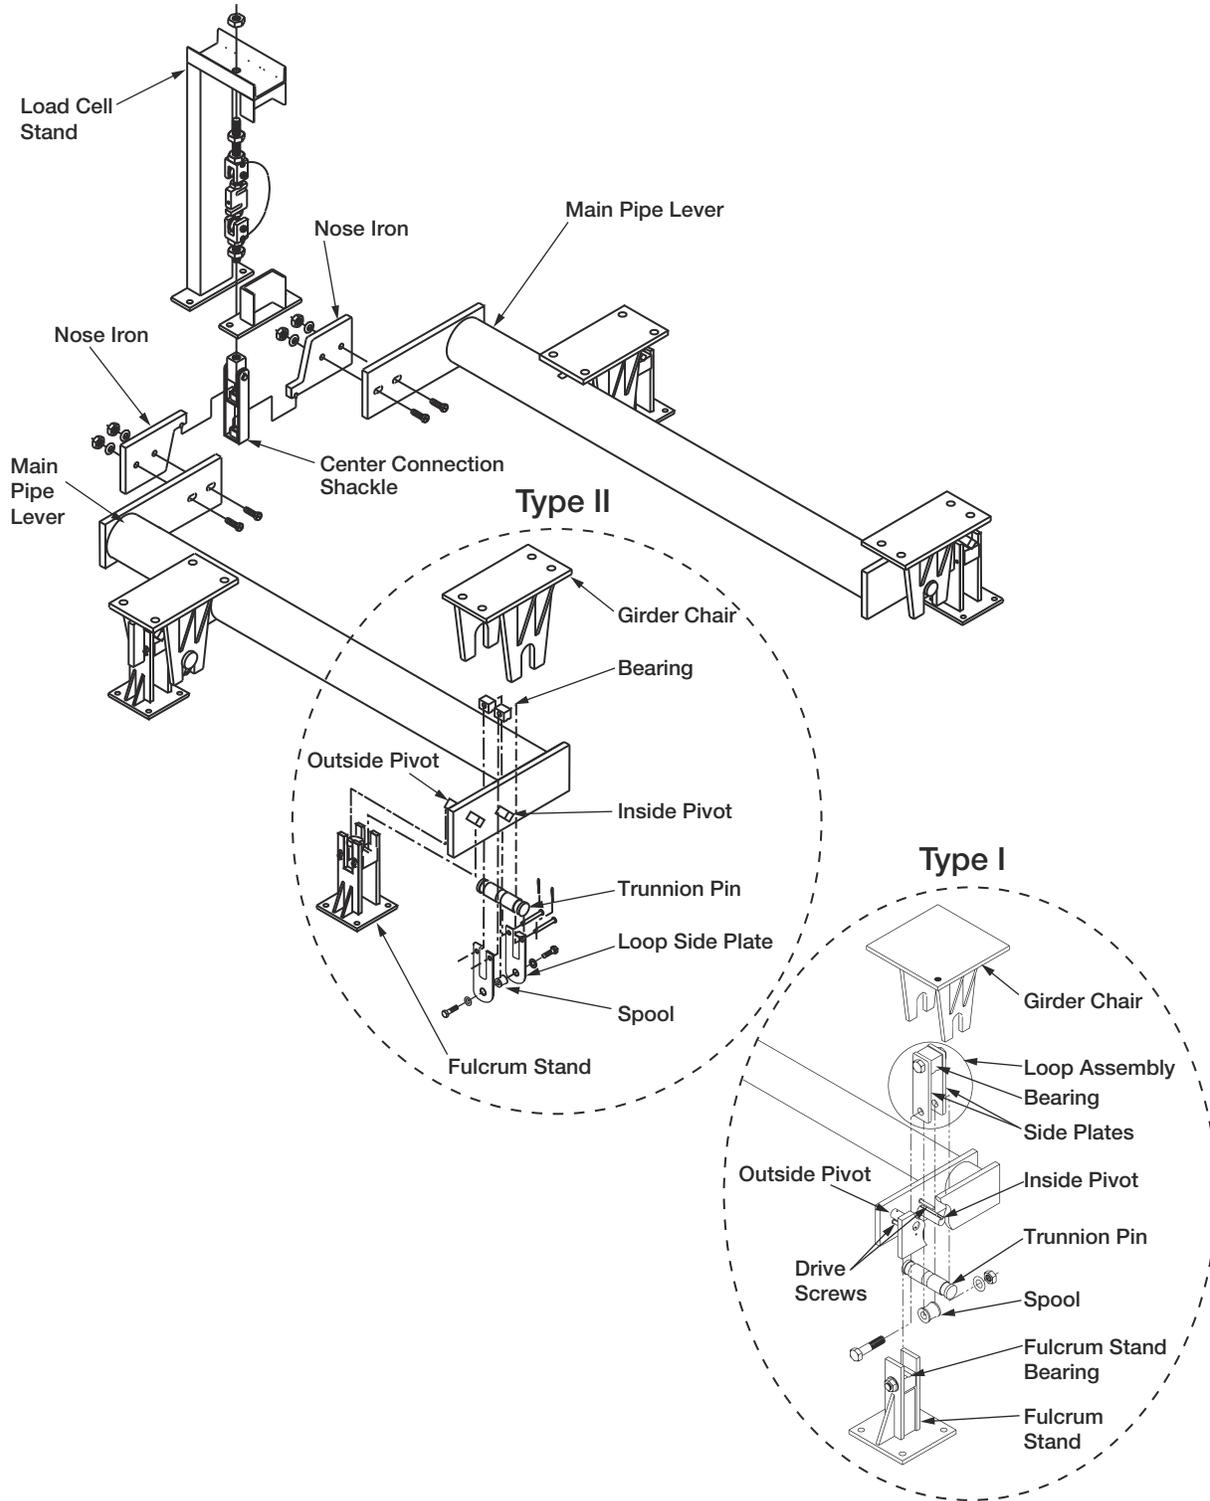

Figure 2-1. Pipe Lever Assembly
1. Position the four fulcrum stands (Figure 2-1) on the concrete base with gussets facing outward from the scale. Ensure fulcrum stands are square and level with each other.
7. Hold trunnion pins in place on loop assemblies and set girder chairs on trunnion pins (see Figure 2-1). Tilt chairs inward against main pipes to support chairs until hopper or tank is added.